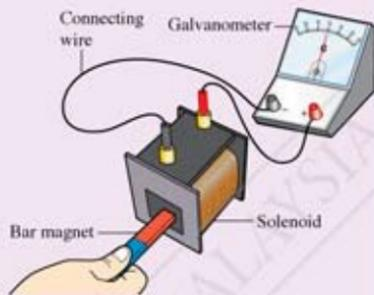

Figure 4.17
1. Set up the arrangement of apparatus as shown in Figure 4.17.
2. Hold the bar magnet stationary near the solenoid as shown in Figure 4.17. Observe the reading of the galvanometer.